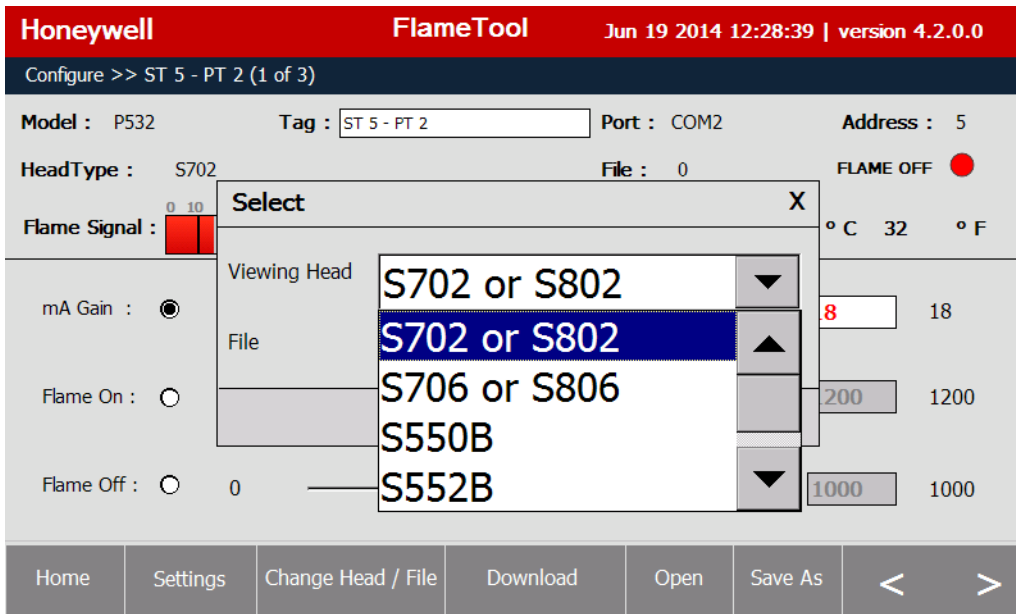

Fig. 47. Viewing Head Selection Menu P531/P532.
P531/P532 supports three (3) viewing heads, two (2) of which will be S55xB or BE and one (1) S70x. Select viewing head from the dropdown menu (Fig. 47).